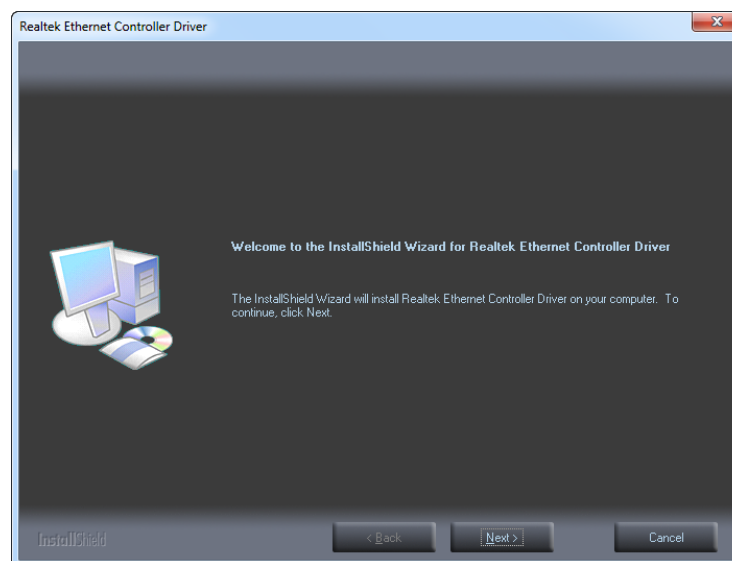

Figure 8-18: LAN Driver Welcome Screen
Step 4: The **Welcome** screen in **Figure 8-18** appears.